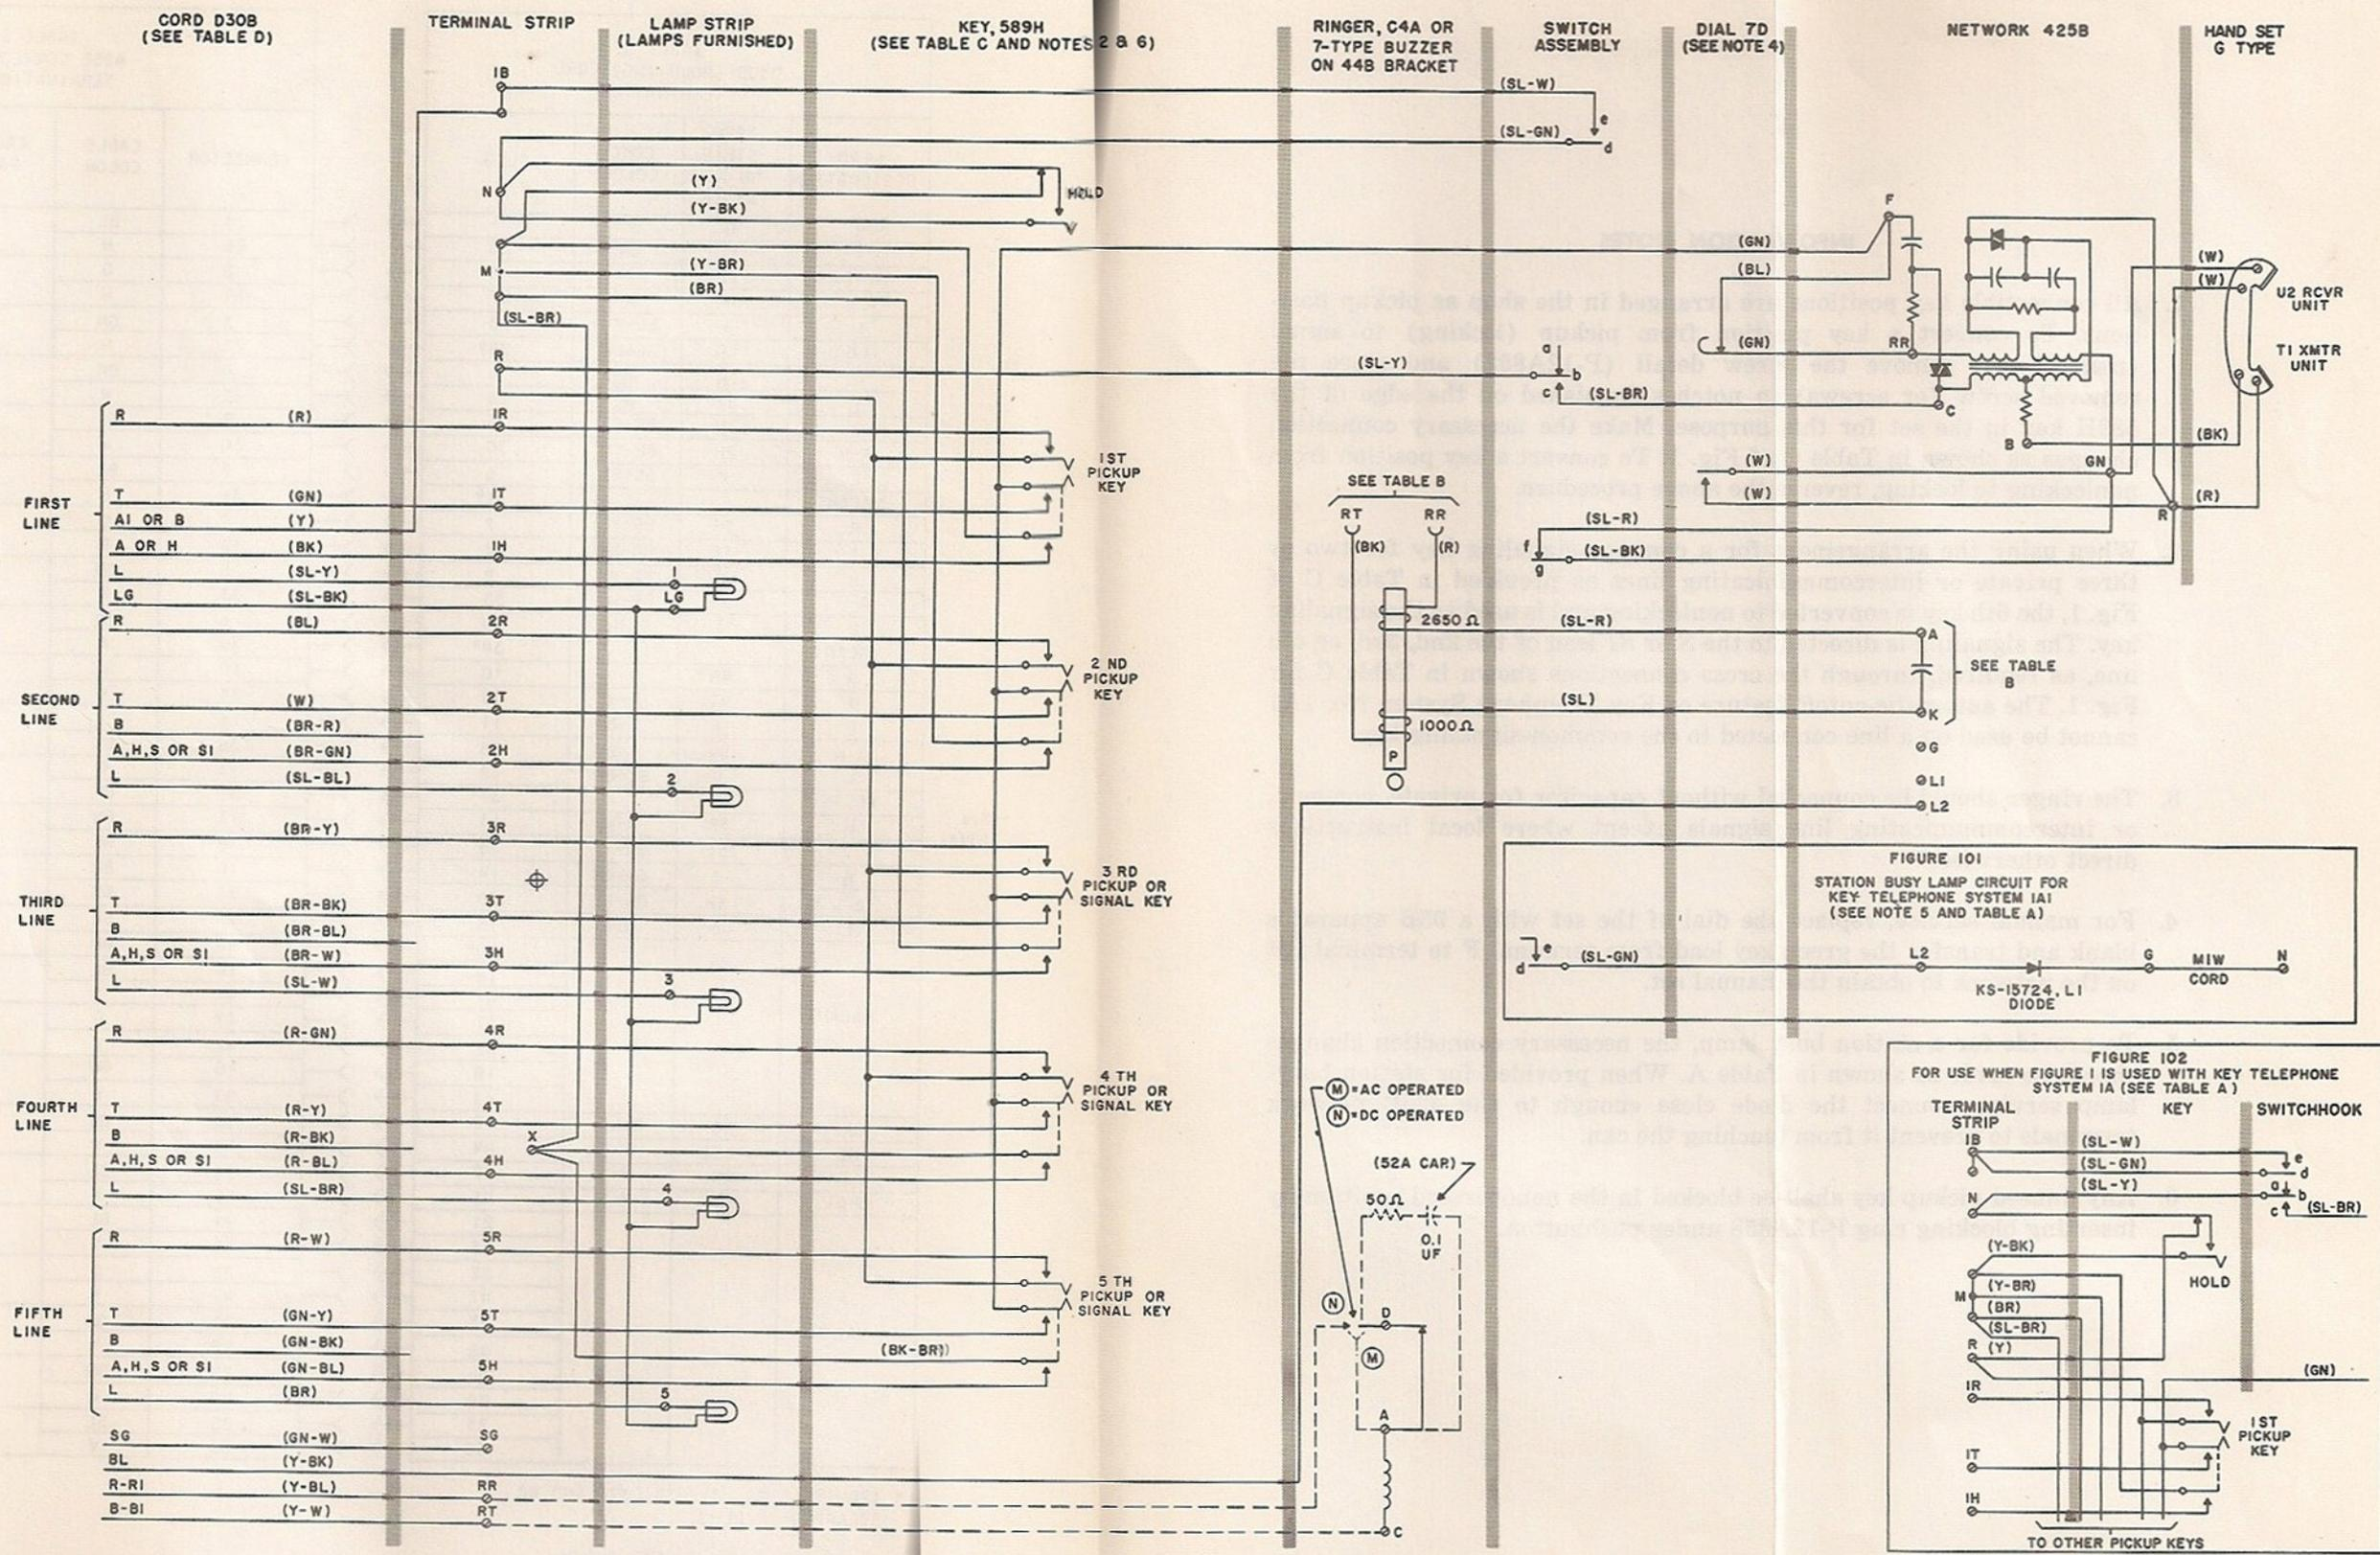

Fig. 1 - Key Telephone Sets, Common Battery Connections
2.01 The 564HDR telephone set is shop-wired for use with 1A1 key systems. Conversion tables used in conjunction with Fig. 1 are for rearrangement for various applications. The information notes should be used in determining the methods of connection.
TABLE A OF FIG. 1, 101, AND 102
TABLE B OF FIG. 1
TABLE C OF FIG. 1
- All convertible key positions are arranged in the shop as pickup positions. To convert a key position from pickup (locking) to signal (nonlocking), remove the screw detail (P-12A892) and store the removed screw (or screws) in notches furnished on the edge of the 589H key in the set for this purpose. Make the necessary connection changes as shown in Table C of Fig. 1. To convert a key position from nonlocking to locking, reverse the above procedure.
- When using the arrangement for a common-signaling key for two or three private or intercommunicating lines as provided in Table C of Fig. 1, the 6th key is converted to nonlocking and is used as the signaling key. The signaling is directed to the *S* or *S1* lead of the 2nd, 3rd, or 4th line, as required, through the cross connections shown in Table C for Fig. 1. The automatic-cutoff feature of Key Telephone System No. 1A1 cannot be used on a line connected to the common-signaling key.